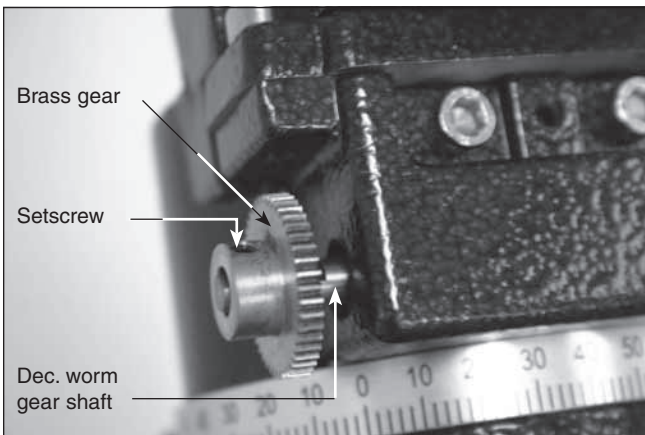

Figure 8. Correct orientation of brass gear for Dec. axis
- Slide the geared end of the remaining small brass gear onto the Dec. worm gear shaft of your SkyView Pro mount so it resembles **Figure 8**. Rotate the small brass gear so that one of the setscrews will press against the flat part of the Dec. worm gear shaft. Secure the small brass gear by tightening the setscrews with the included 2mm hex key, but do not overtighten. You may have to make small adjustments to the gear's position in the following step to ensure proper gear engagement.